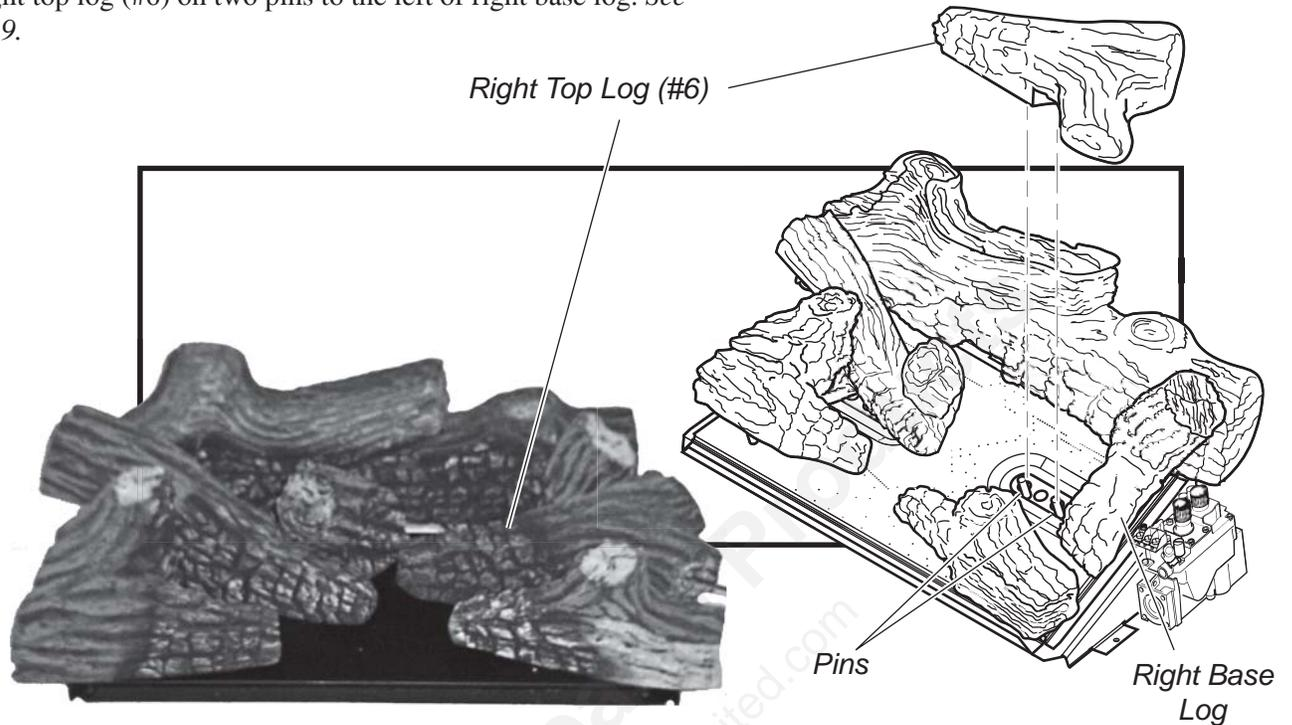

Figure 29 - Installing Right Top Log (#6)
6. Place right top log (#6) on two pins to the left of right base log. See Figure 29.